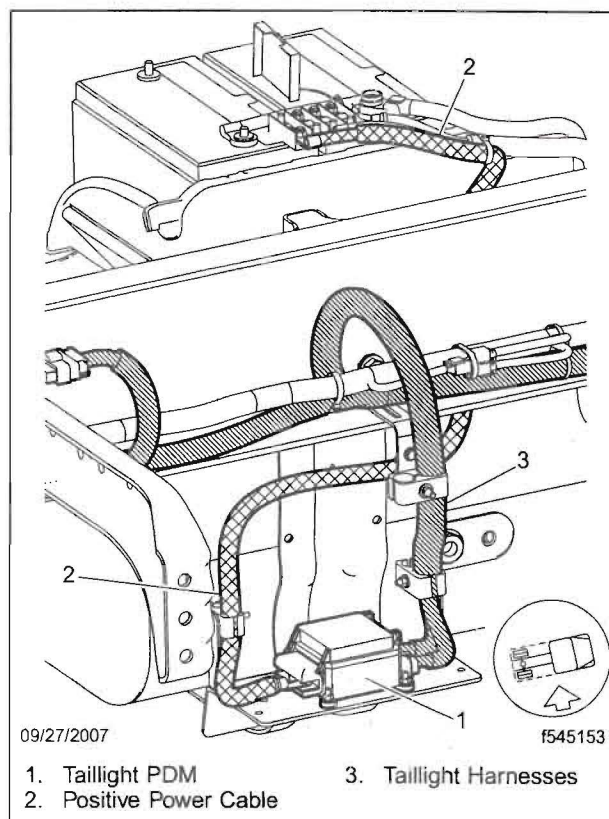

Fig. 1, High-Amp Taillight PDM Installation
4. Find the positive power cable on the high current taillight PDM and trace it back to the battery. Disconnect the cable from the battery and the PDM and discard the cable. See Fig. 1.
5. Disconnect the taillight harnesses from the high-amp taillight PDM. See Fig. 1.